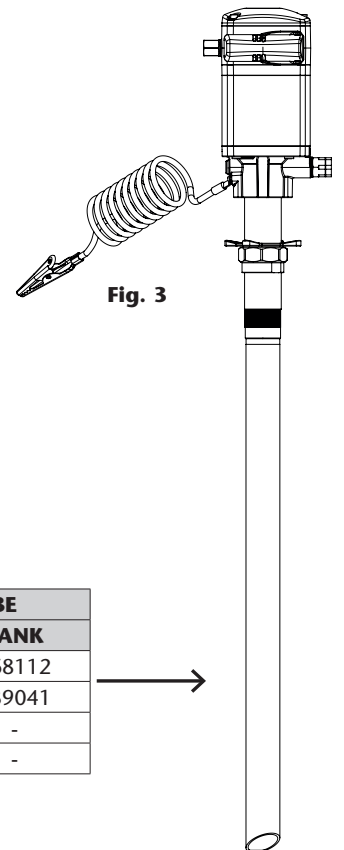

Fig. 3
- c.** Adjustable drum or tank mounting, using bung adapter (360001). Screw the proper suction tube (see Fig. 3) to the foot valve of the pump. Screw the nut of the bung adapter to the 2" opening of the cover. Insert the suction tube through the nut and secure it with the star nut at the desired height.